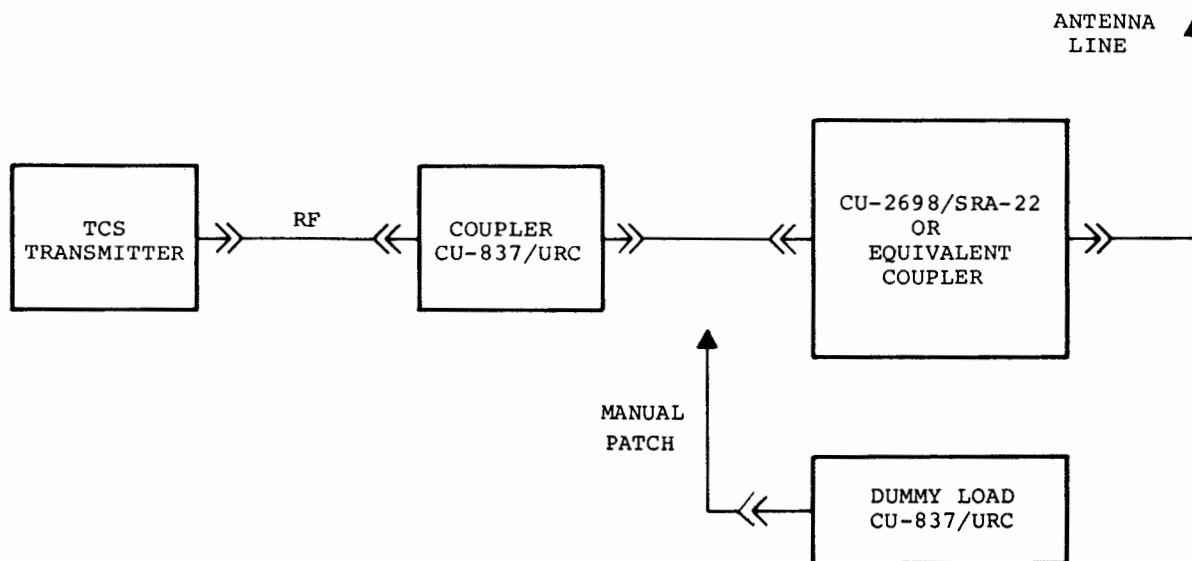

Figure 6-20 Coupler CU-837/URC Interconnection Diagram
c. INTERCONNECTION DIAGRAM. - See Figure 6-20.